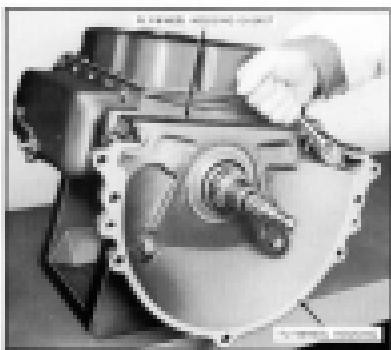

Fig. 575. Removing Flywheel Housing.
8. Remove four cap screws and lock washers holding flywheel housing to front of transmission case, remove flywheel housing and gasket. (Fig. 575)